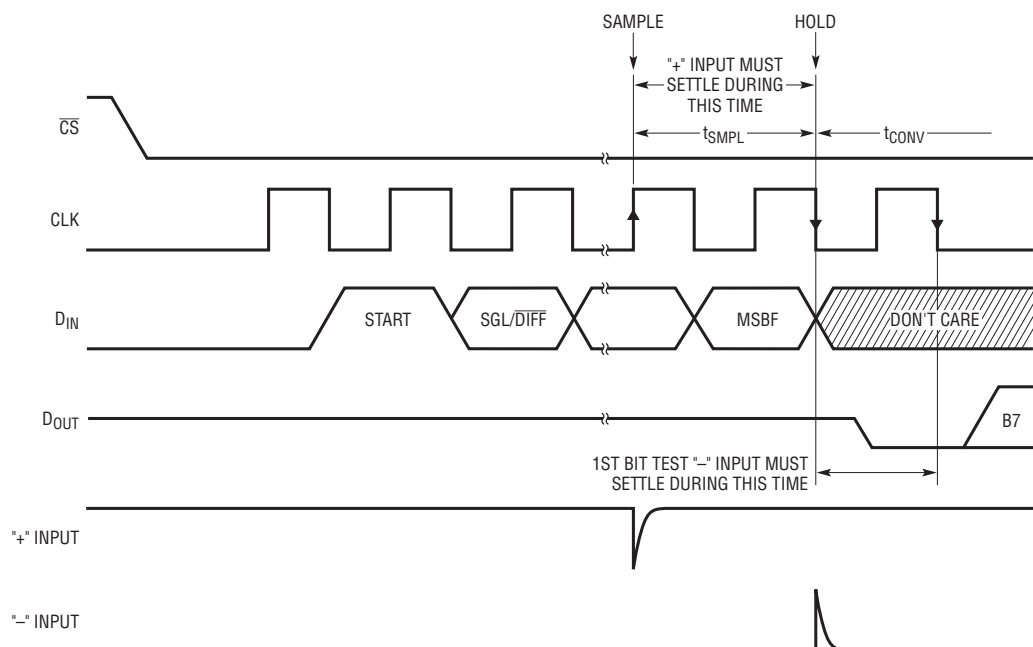

Figure 7. LTC1098(L) “+” and “-” Input Settling Windows
Both the LTC1096(L) and the LTC1098(L) provide a built-in sample-and-hold (S&H) function to acquire signals. The S&H of the LTC1096(L) acquires input signals from “+” input relative to “-” input during the  $t_{WAKEUP}$  time (see Figure 1). However, the S&H of the LTC1098(L) can sample input signals in the single-ended mode or in the differential inputs during the  $t_{SMPL}$  time (see Figure 7).
The sample-and-hold of the LTC1098(L) allows conversion of rapidly varying signals. The input voltage is sampled during the  $t_{SMPL}$  time as shown in Figure 7. The sampling interval begins as the bit preceding the MSBF bit is shifted
The input capacitor of the LTC1096(L) is switched onto “+” input during the wake-up time (see Figure 1) and samples the input signal within that time. However, the input capacitor of the LTC1098(L) is switched onto “+” input during the sample phase ( $t_{\text{SMPL}}$ , see Figure 7). The sample phase is 1.5 CLK cycles before conversion starts. The voltage on the “+” input must settle completely within
When driving the analog inputs with an op amp it is important that the op amp settle within the allowed time (see Figure 7). Again, the “+” and “–” input sampling times can be extended as described above to accommodate slower op amps. Most op amps, including the LT1006 and LT1413 single supply op amps, can be made to settle well even with the minimum settling windows of 3 $\mu$ s (“+” input) which occur at the maximum clock rate of 500kHz.